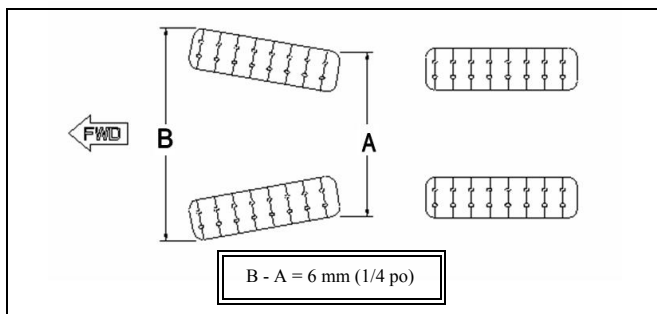

Figure 5
The parallelism must be adjusted with the UTV on the ground, driving forward on about 10 feet (3 m) and measuring toe out distance. It should be $\frac{1}{4}$ inch (6 mm) more at the front (B) than at the back (A) (refer to Figure 5).